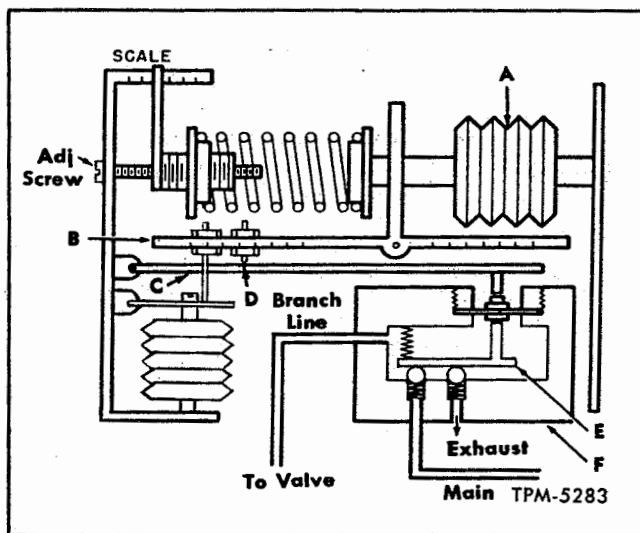
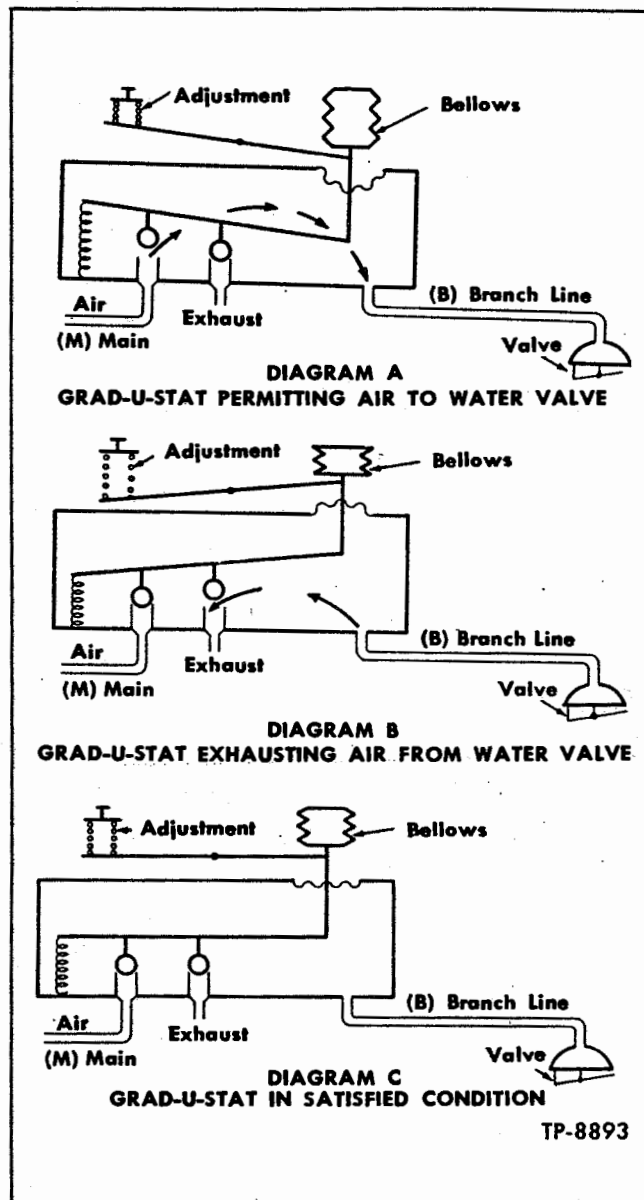

Figure 22—Grad-U-Stat Diagram
Figure 23—Grad-U-Stat Operational Diagrams
NOTE: Key letters in text refer to figure 22, however, throughout explanation of Grad-U-Stat Operation, reference is made to simplified diagrams shown in figure 23 which illustrate reaction of Grad-U-Stat under varied temperature conditions.
water modulation valve as shown in diagram A, figure 22. This increased air pressure at the modulation valve causes the valve to close, reducing the flow of water through the heater core.
When temperature in coach lowers, the bellows (A) contracts and relieves pressure exerted in air control valve lever (E). Air valve then exhaust air pressure from water modulation valve, increasing the flow of water through the heater core as shown in diagram B, figure 23. The air pressure delivered by the Grad-U-Stat varies in proportion to the inside coach temperature acting upon the bellows; thus, flow of water through underfloor heater core is graduated as required in accordance with inside coach temperature. Diagram "C" figure 22, shows status of Grad-U-Stat when temperature in coach is approximately equal to temperature setting on